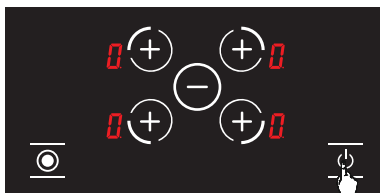

Figure 8
1.  Switch on the hob by pressing the button. (See Fig. 8)